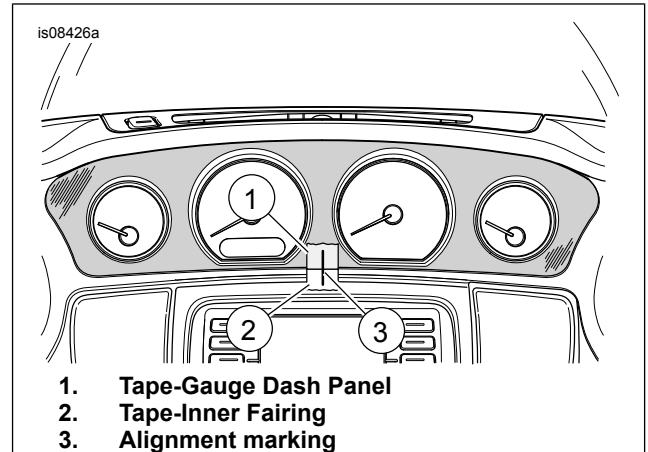

Figure 1. Gauge Dash Panel
3. See Figure 1. Hold the panel in position and apply a small piece of masking tape along its bottom edge.